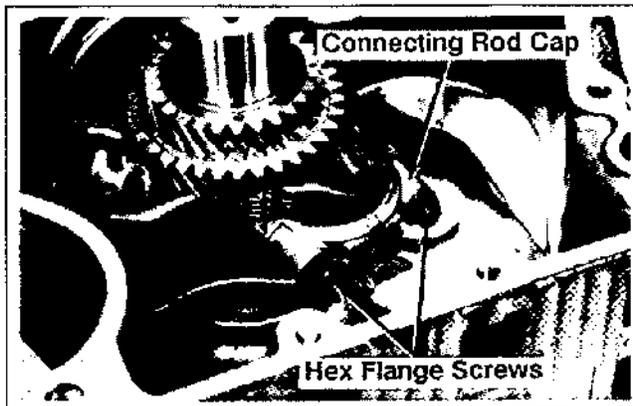

Figure 9-41. Removing Connecting Rod.
1. Remove the two hex flange screws and connecting rod cap. See Figure 9-41.